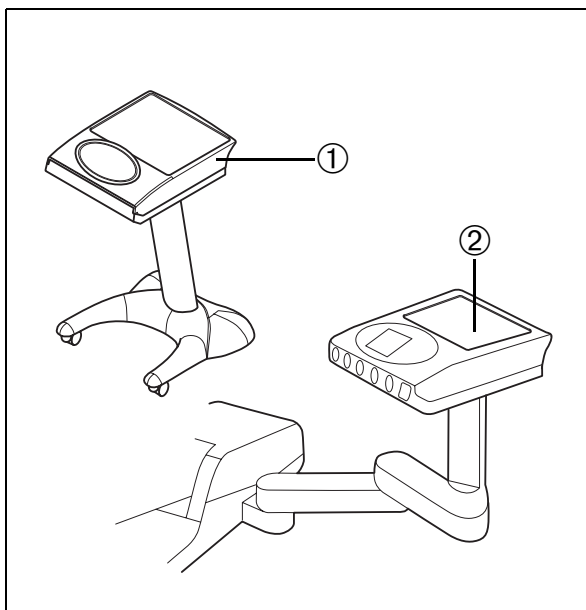
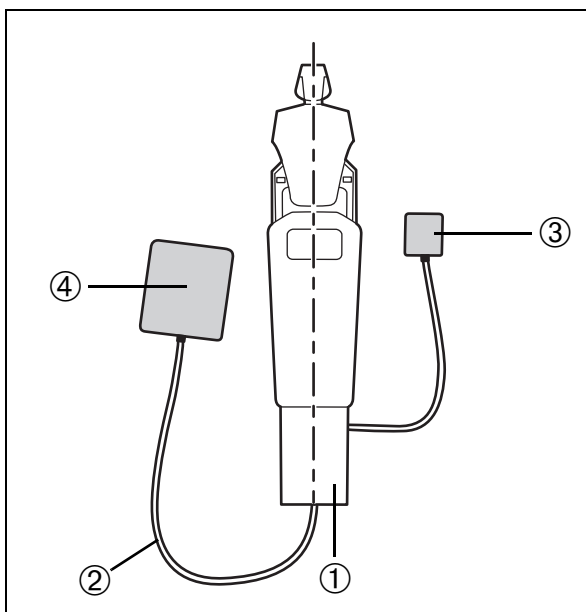

Fig. 2
Fig. 3
The U3000 dental unit (Fig. 2) is a mobile ① or floor-mounted ② dental treatment unit. A flexible supply hose fixes it to the accompanying supply unit, which is either separate or integrated into the motorized chair ① (Fig. 3).
Moreover, it is completely suited for partially modernizing existing workplaces from ULTRADENT or other suppliers (Fig. 3).